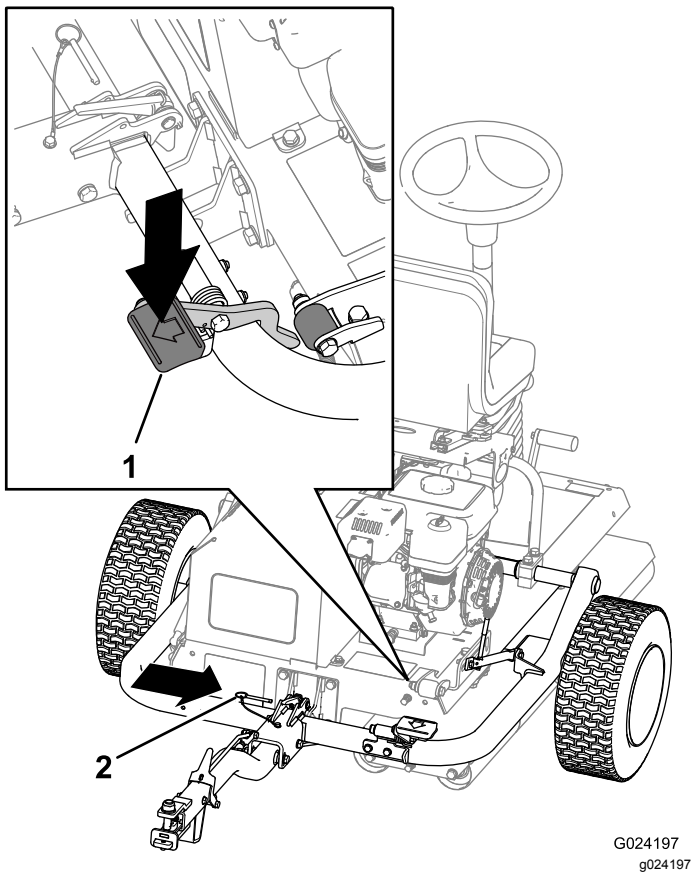

Figure 8
6. Step on the hitch pedal until the hitch locks into place (Figure 8).